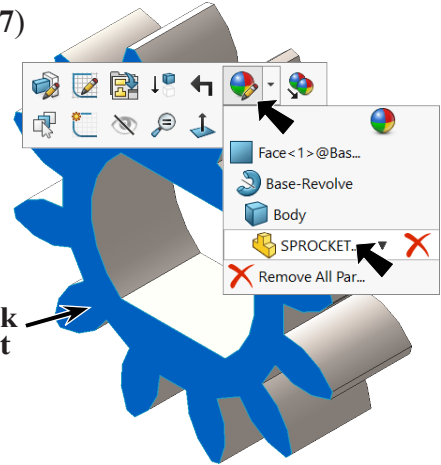

Fig. 14
Step 2. Click part, click **Appearance Callout**  on the context toolbar and click **SPROCKET 12T 1M** , Fig. 14.